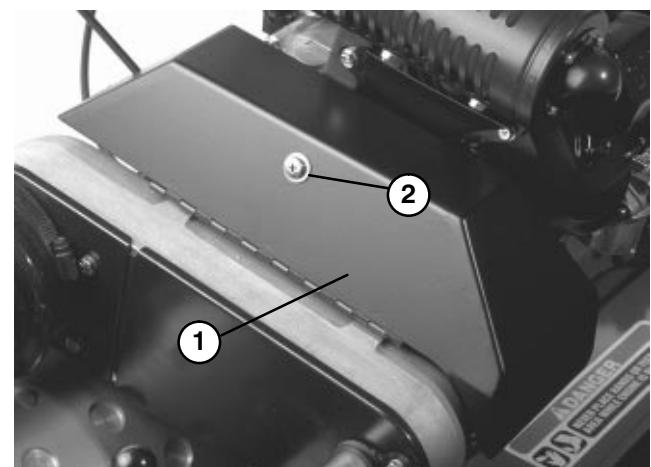

Figure 38
Primary V-belts (Fig. 38–39)
2. Loosen retainer securing v-belt cover and pivot cover open (Fig. 38).